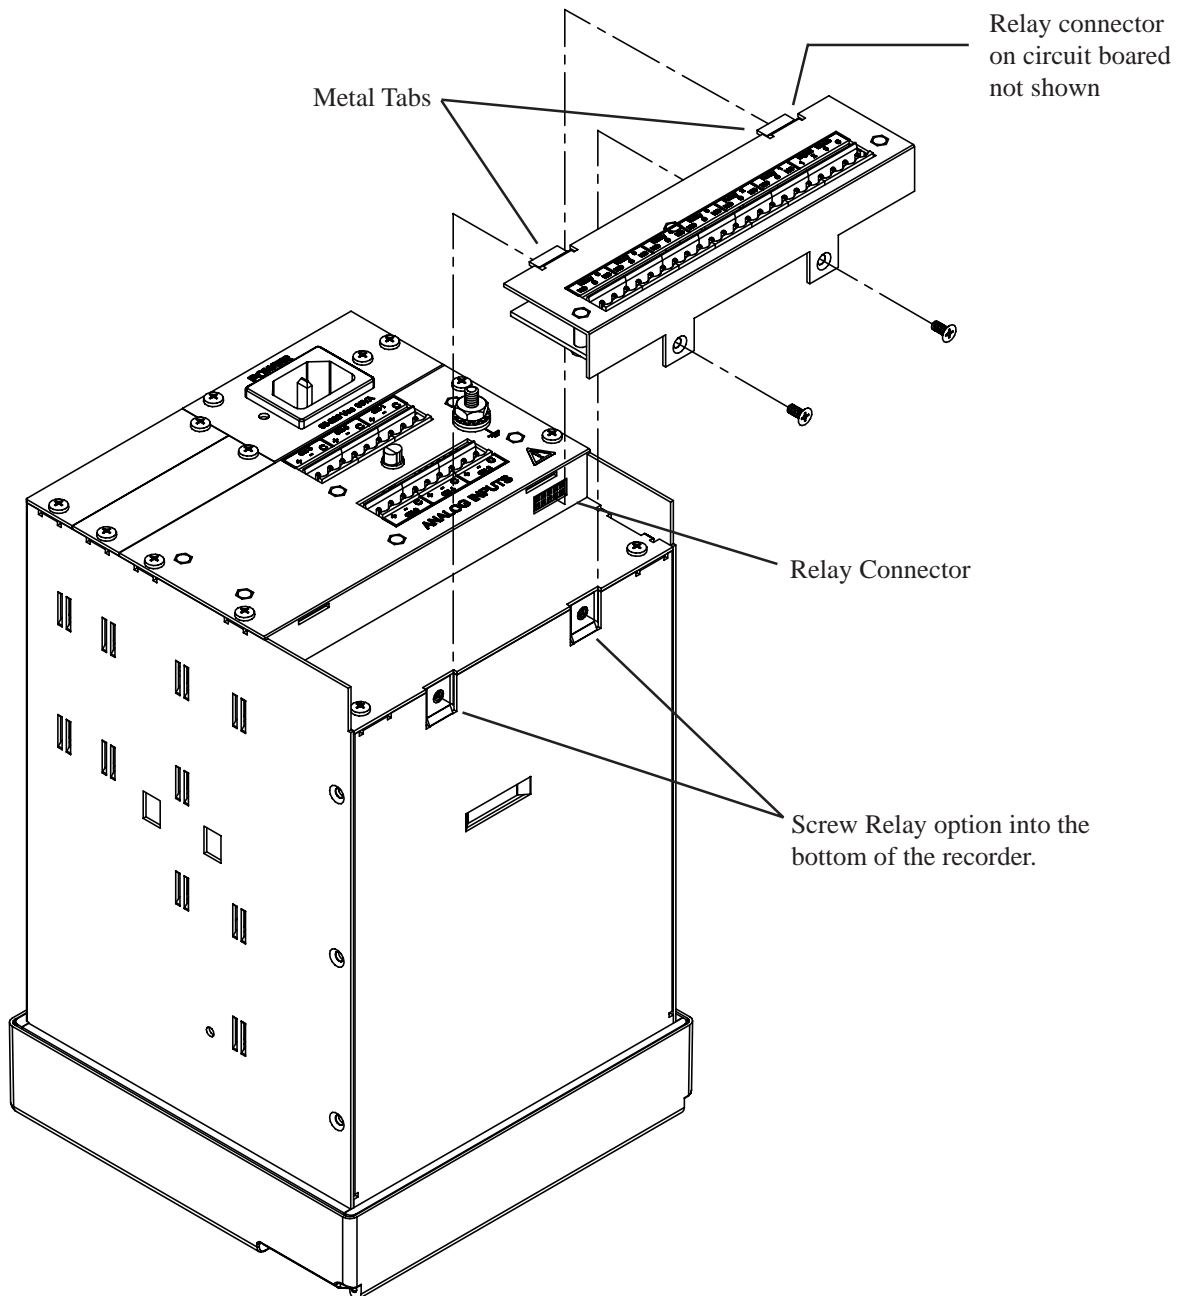

Figure 2 Relay Board Installation
2. Plug the connector and metal tabs of the Relay option into the recorder case as shown in Figure 2.